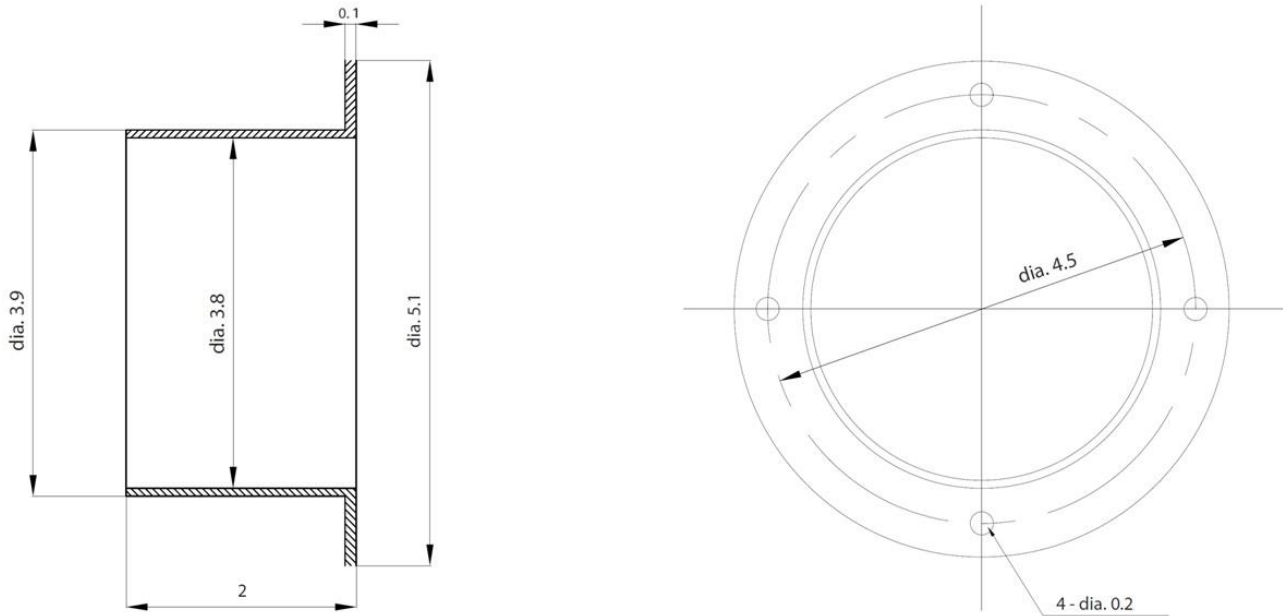
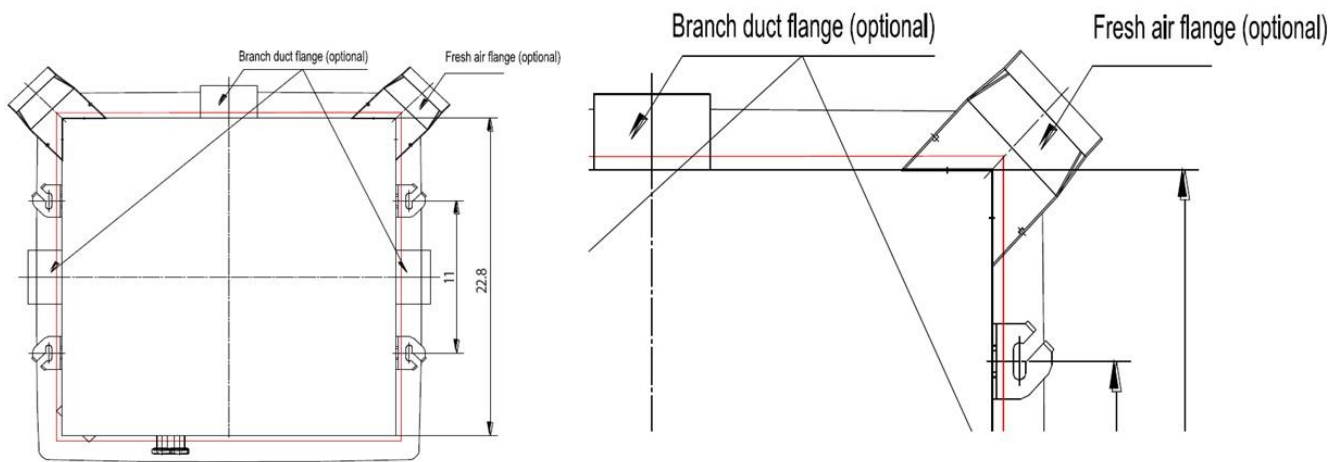

Figure 15 - Branch Duct Dimension
Figure 16
- The side opening allows separate ductwork to be installed for branch ducting. (Figure 15 and Figure 16).